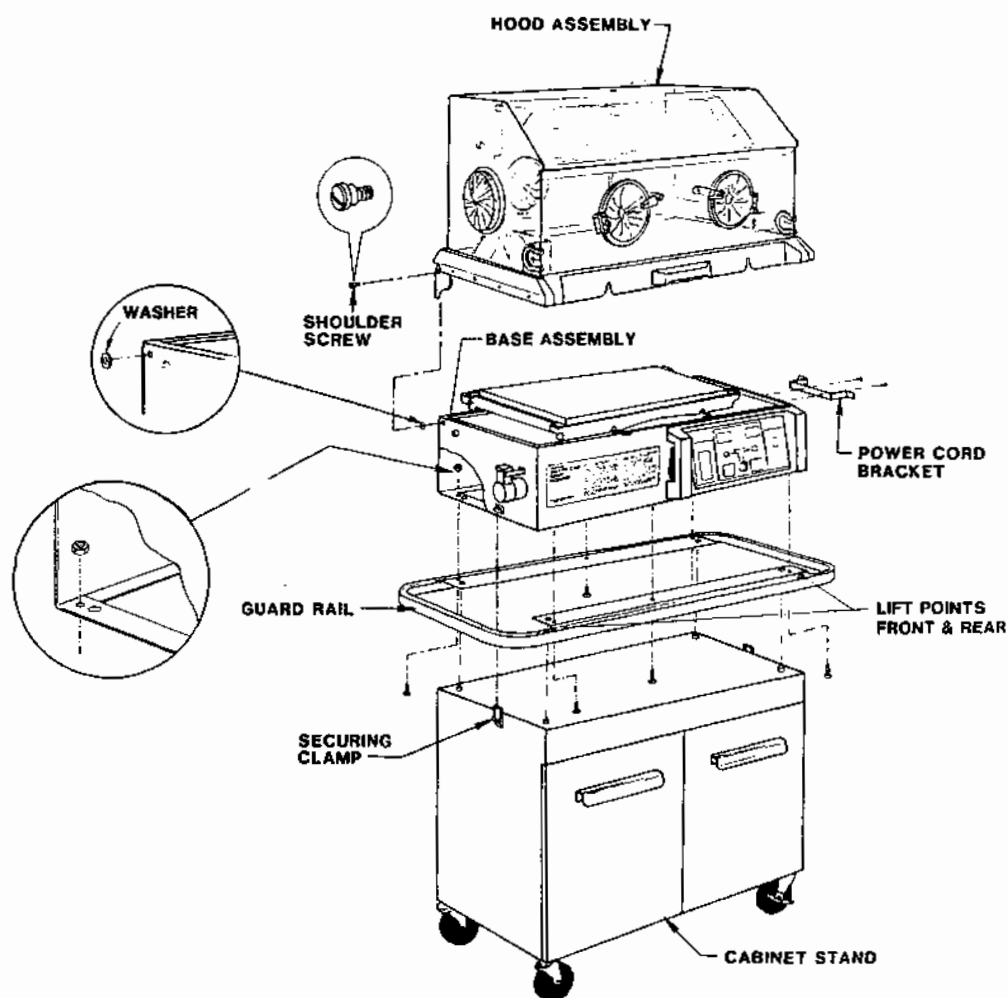

FIGURE 2.1 ASSEMBLY
- A. Attach the Guard Rail to the underside of the Base Assembly using the 6 bolts and lock nuts supplied (see Figure 2.1).
CAUTION: Refer to Figure 2.1 for lifting instructions.
- B. Place the Guard Rail and Base Assembly on the Cabinet Stand as shown in Figure 2.1.
- D. Install the Hood Assembly on the Base Assembly as shown in Figure 2.1.
- E. Assemble the power cord bracket onto the Base Base Assembly as shown in Figure 2.1.